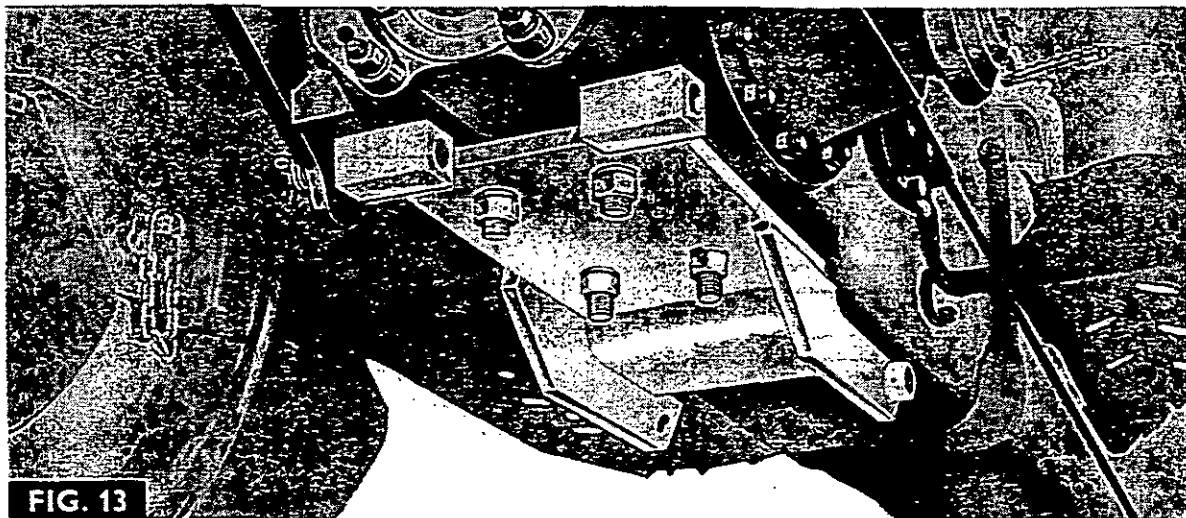

FIG. 13
4. Fig 13. Locate the mounting bracket (35) on the four studs, then secure it with the four nuts (44) and spring washers (45). Tighten the nuts to 27,5 kg-m (200 lb-ft).